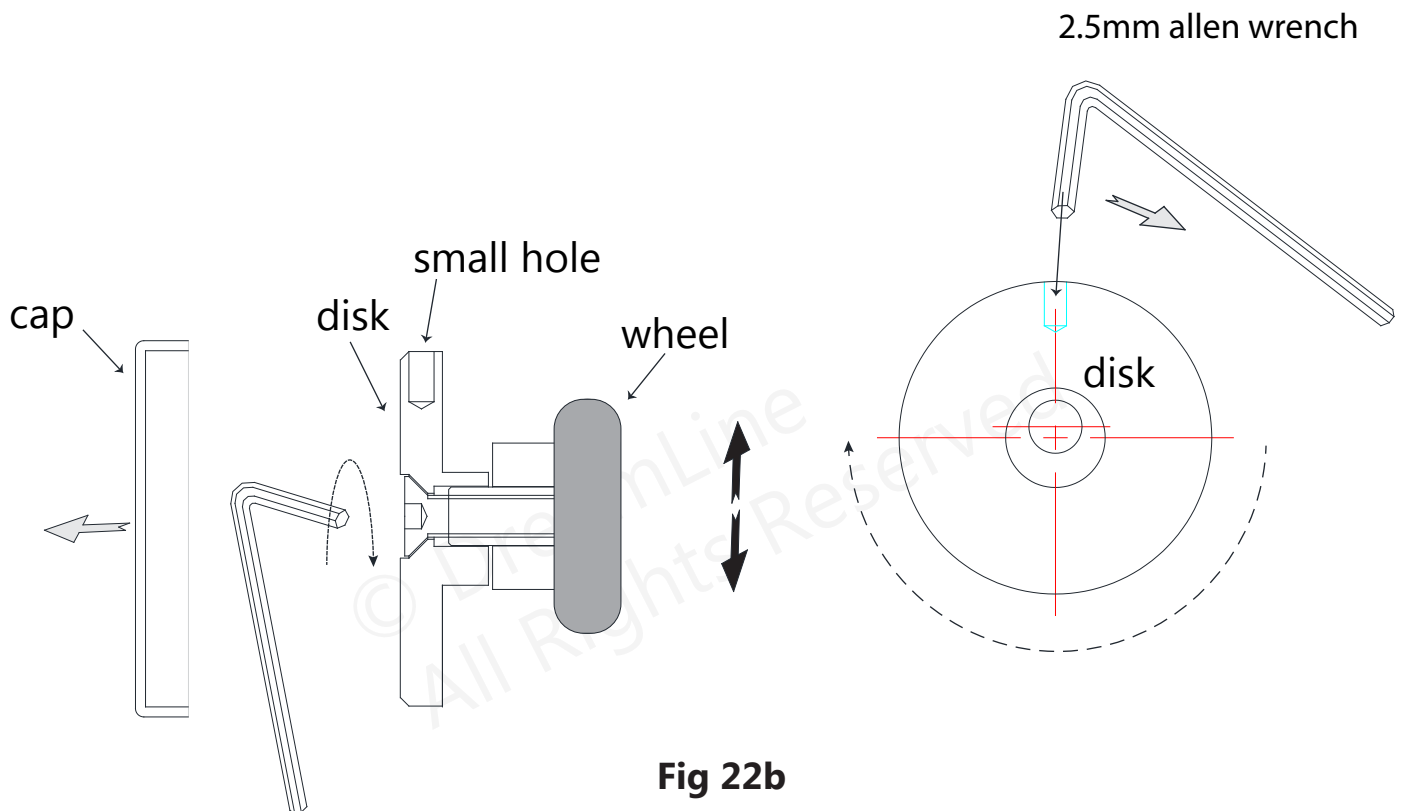

Fig 22b
- Re-adjust and fully tighten the **Roller Guards (#03)** to within 1/16" of the **Upper Guide Rail (#01)** (**Fig 22a and Fig 22b**)